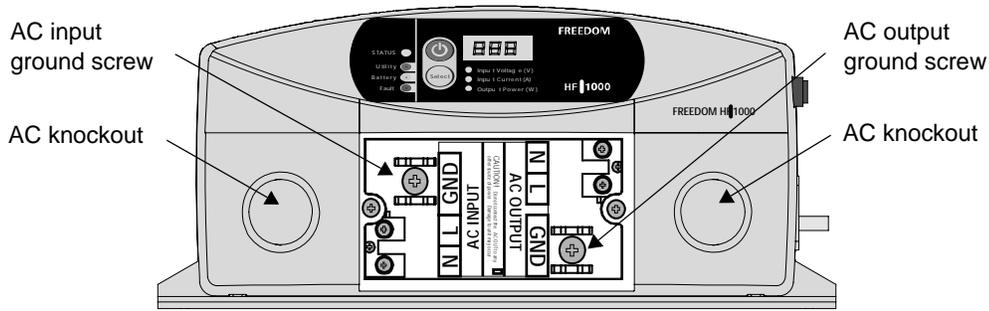

Figure 1-5 Freedom HF AC Wiring Compartment
AC Wiring Compartment	<p>For your reference, the AC Wiring Compartment is shown in Figure 1-5.</p>
5. Remove the left-hand side AC wiring knockout from the front panel of the unit (see Figure 1-5 on page 1-17).
A separate screw is provided to connect the AC input ground (see Figure 1-5 on page 1-17).